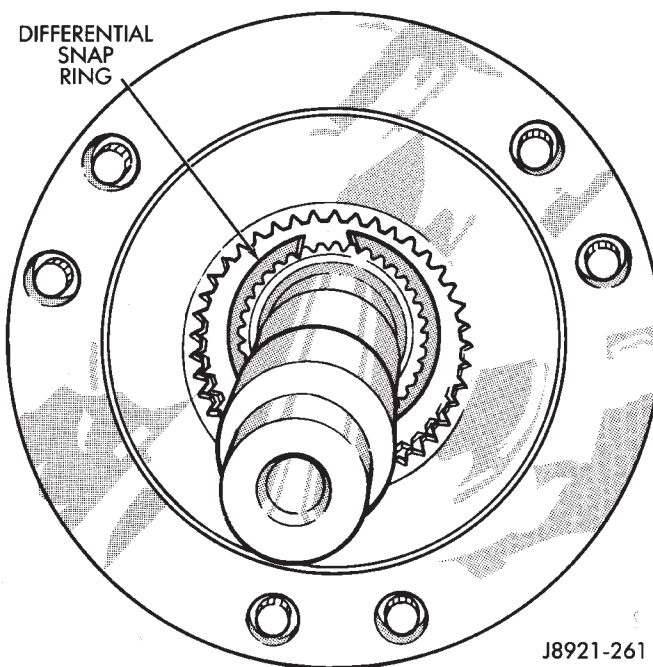

Fig. 58 Installing Differential Snap Ring
(35) Install the differential snap ring (Fig. 58).